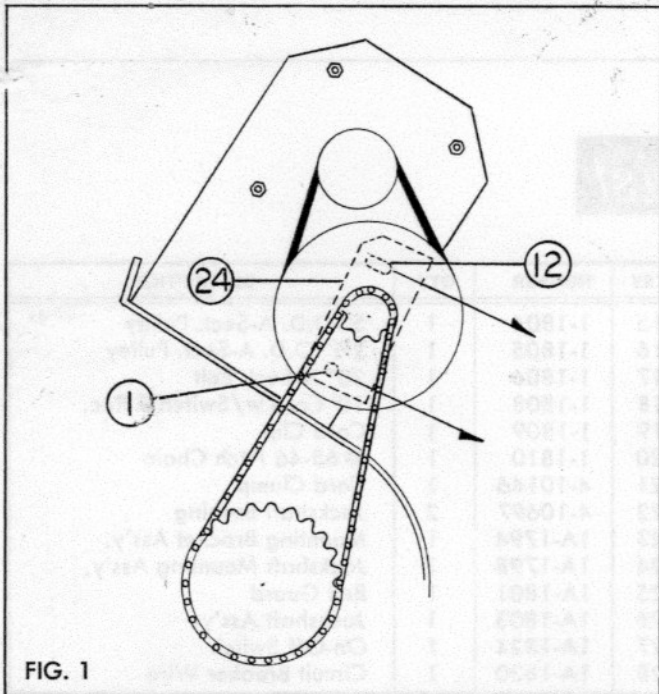

FIG. 1
1. Fasten Motor Mounting Bracket (23) to Chassis (A) with four Carriage Bolts (9) and Lock Nuts (11).
2. Mount Motor (B) to Mounting Bracket (23) using three 3/4" Bolts (3) and Lock Nuts (6) in two Top Holes and Back Bottom Hole.
3. Install Jackshaft Housing Assembly (includes sprocket, shaft and pulley) to Motor Mounting Bracket and secure at top (not tight) with 1 1/4" Bolt (12), Flat Washer (10) and Lock Nut (6). Fasten at bottom with 3/4" Bolt (1), Flat Washer (2) and Lock Nut (11).
4. Place Square Key (14) in Motor Shaft, Slip 2 1/2" Pulley (16) (Hub toward motor) on Motor Shaft and tighten Set Screw in Pulley Hub.
5. Install 20" A-Section V-Belt (17).
6. Install Drive Chain (20) on small Sprocket of Jackshaft and Drive Sprocket (C) on Brush Shaft of Sweeper.
7. With Belt and Chain installed, rotate and slide Jackshaft Bracker (24) in slots to obtain correct Belt and Chain tension. Then tighten Bolts (12) and (1). See Fig. 1.